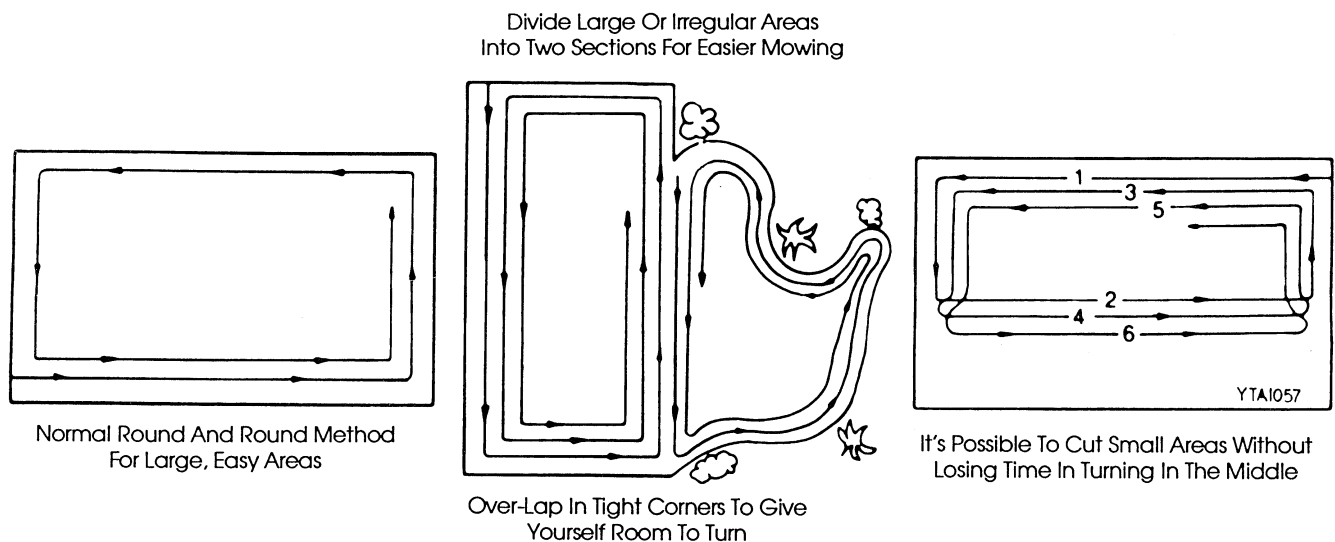

FIG. 2.2A
1. Cut counterclockwise patterns, to discharge grass into already cut areas (Fig. 2.2A).
2. Changing direction wastes time. Plan to keep mower moving forward as much as possible (Fig. 2.2A left).
3. Plan for the longest straight runs that are possible (Fig. 2.2A left).
5. Sometimes it is easier to divide a large irregular shaped area into smaller sections (Fig. 2.2A center) to keep the mower working more steadily or to keep from reversing, turning or repeating too often.
6. In a small area, where tight turns would cause lost time in the center if the normal round and round methods were used, try the cutting method in Fig. 2.2A right. Make the second pass down the center of the area rather than down the opposite side from the pass. This allows you to swing wide at the end of each pass and still cut all the grass with a minimum of reversing.